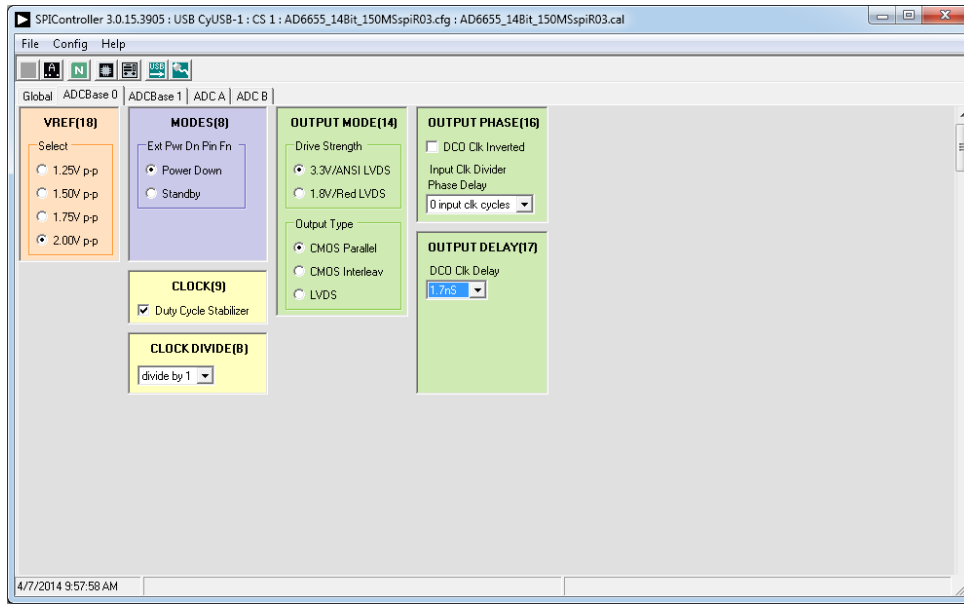

Figure 6. Set Output Delay
9. Next open the SPI Controller software. If prompted for a configuration file, select the configuration file titled AD6655\_14Bit\_XXXMSpiR03.cfg where XXX is the speed grade of the AD6655 device that is being used. If not, check the title bar of the window to see which configuration is loaded. If necessary, choose “Cfg Open” from the “File” menu and select one of the configuration files named above. Note that the CHIP ID(1) field may be filled whether the correct SPI Controller configuration file is loaded or not.
11. Set the DCO Clk Delay in the OUTPUT DELAY(17) panel on the ADCBase0 tab as shown below. Set the DCO Clk Delay register to ‘1.7ns’ (see Figure 6). This setting aligns the output timing with the input timing on the capture FPGA.